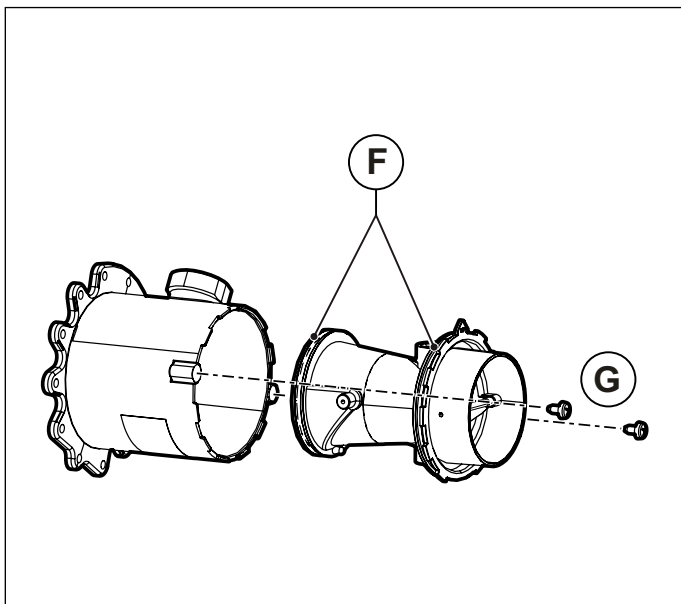
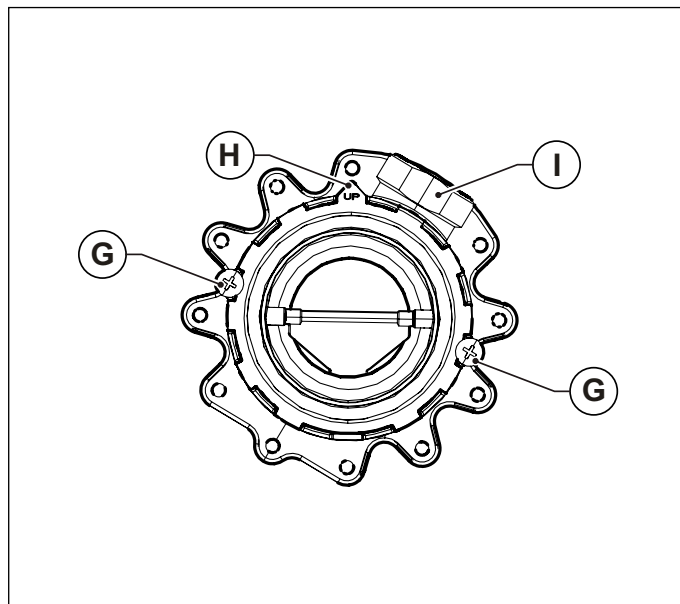

Fig. 43 Mixer plastic body
Fig. 44 Assembling direction
- Loosen the two retaining screws **G** and slide out mixer plastic body (see Fig. 43 Mixer plastic body).
- Screw the plastic body to the mixer using the **G** retaining screws. Take care not to damage the **F** O-rings and to comply with the assembly direction (see Fig. 43 Mixer plastic body and Fig. 44 Assembling direction).